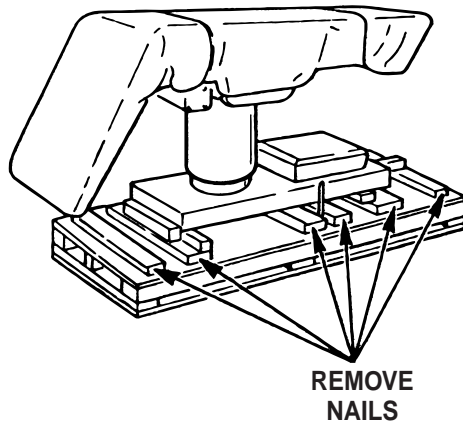

Figure 4.
6. Remove the nails securing the positioning blocks and remove the outer blocks. See figure 4.